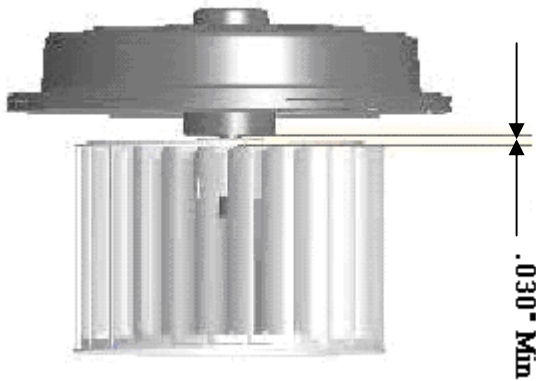

Figure 1.0 Blower Wheel / Motor Assy.
4. Install existing blower wheel on new motor. Press the blower wheel onto the motor shaft until it stops against motor. Back blower wheel away to achieve a .030”-.040” clearance between blower wheel and new motor. Apply one drop of low strength Loctite to set screw and tighten against flat portion of motor shaft to lock wheel in place. (Figure 1.0)